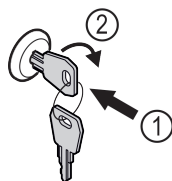

Fig. 114
- ▶ Insert key Fig. 114 (1).
- ▶ Turn key clockwise by 90° Fig. 114 (2).